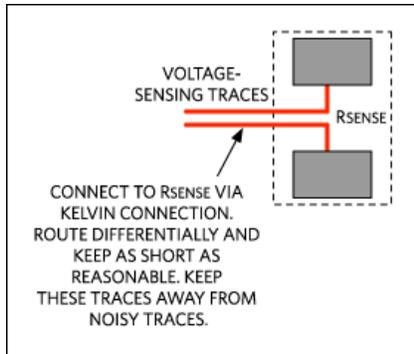

Figure 6. Diagram showing a kelvin connection on a two-terminal R_{SENSE} .
- A four- (or six-) terminal sense resistor is recommended when using lower value resistances. If a two-terminal sense resistor is used, connect the voltage-sensing leads to R_{SENSE} with a kelvin connection. See Figure 6.